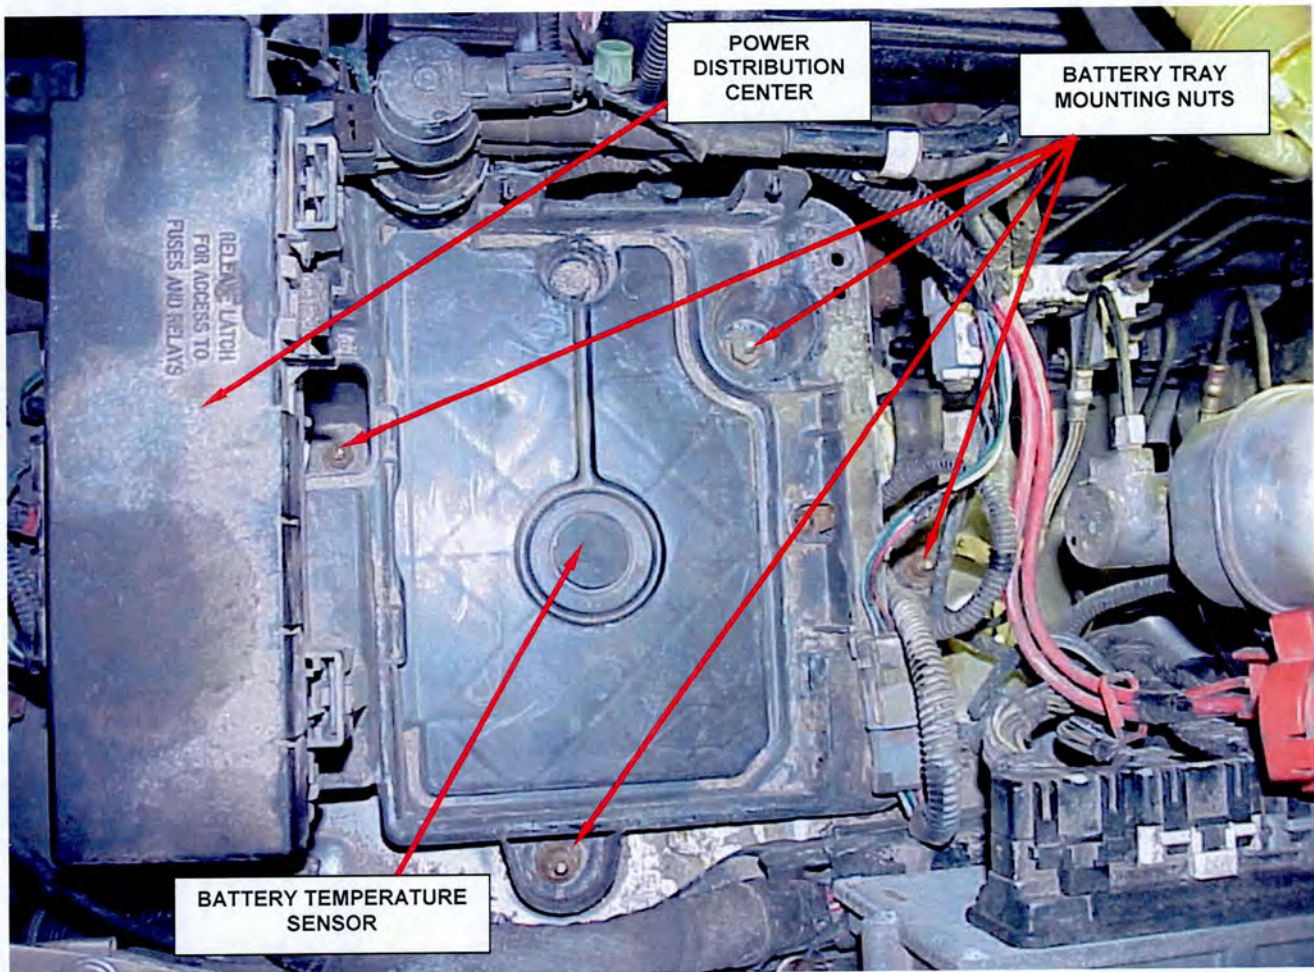

Figure 1 – Relocate PDC and Remove Battery Tray
5. Detach the Power Distribution Center (PDC) and reposition it to the side (Figure 1).
6. Remove the four battery tray mounting nuts (Figure 1).
27. Connect the battery temperature sensor to the battery tray (Figure 1).
28. Install the battery tray into position and install the four mounting nuts (Figure 1).